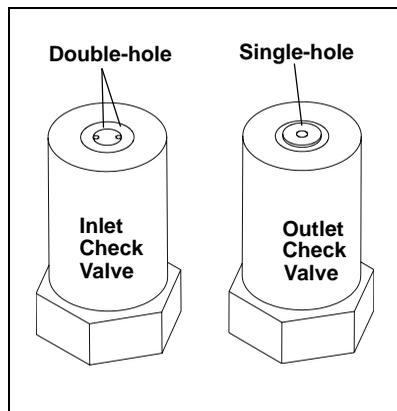

Figure 5-9. Pump Heads
4. Disconnect the tube fittings from the inlet and outlet check valve assemblies on the primary pump head (see Figure 5-9).
3. Locate the open-end wrench (P/N 014605) provided in the ICS-1500 Ship Kit (P/N 057905). Use the wrench to remove the two acorn nuts (see Figure 5-9) from the pump head.